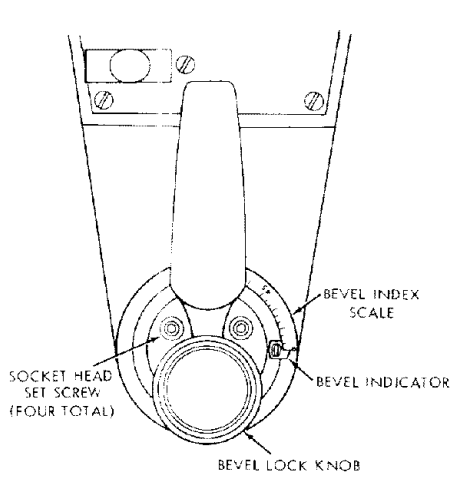

Figure 65
- (a) Loosen the bevel lock knob (figure 65) several turns in order to provide room for inserting the hex-L wrench into heads of the socket-head screws.
- (b) Using a 1/4-inch hex-L wrench, loosen just slightly the four socket-head screws (figure 65).
- (d) Tighten the socket-head screws (figure 65) and bevel lock knob. It may be